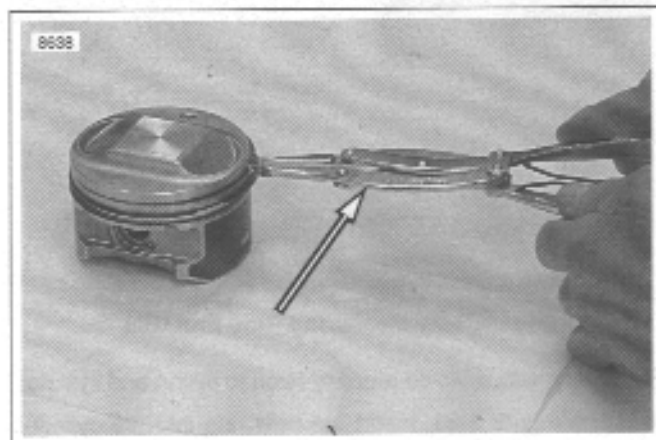

Figure 3-99. Installing Piston Rings Transmission Shaft Retaining Ring Pliers (Part No. J-5586)
- See Figure 3-99. Apply engine oil to piston grooves. Use TRANSMISSION SHAFT RETAINING RING PLIERS (Part No. J-5586) to slip compression rings over piston into their respective grooves. Be extremely careful not to over expand, twist rings or damage piston surface when installing rings.